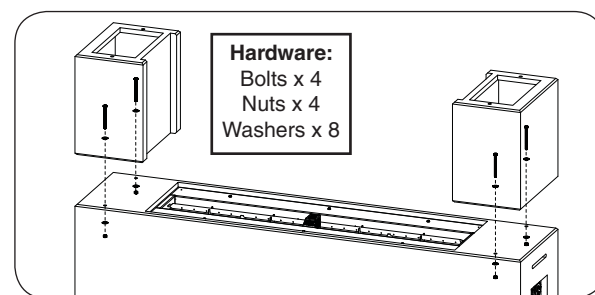

Fig. 20-4 Assemble side pieces
1. Place a side piece on top of the base. Carefully align the pilot holes, and insert the hardware in the order shown in Fig. 20-4. Hand tighten, then use two $\frac{3}{4}$ " open end wrenches (or equivalent) to fasten. Repeat for the other side.